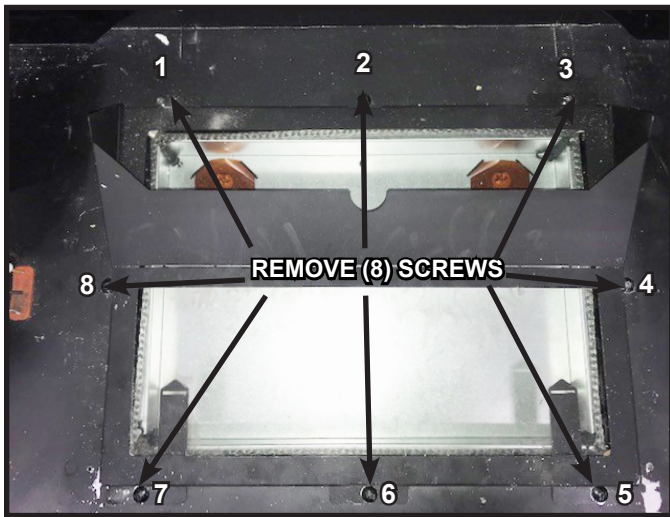

Figure 11 Remove Glass Assembly
11. Using a screw gun and a Phillips screw driver bit, remove the eight (8) screws that fasten down the Glass Assembly to the bottom of the inside firebox. See Figure 11.
18. The rear light cover should slide between the inner glass assembly and the light cover so that the clearance hole of the rear light cover lines up with the hole of the inner glass assembly. This is was left open in Step 15 (#2 screw shown in Figure 11). You may lift up on the light cover so that the rear light cover can fully slide into position underneath it.
19. Reinstall #2 screw saved in Step 15 (shown in Figure 11). This screw will hold down the rear light cover and the inner glass assembly down to the firebox bottom. See Figure 18.